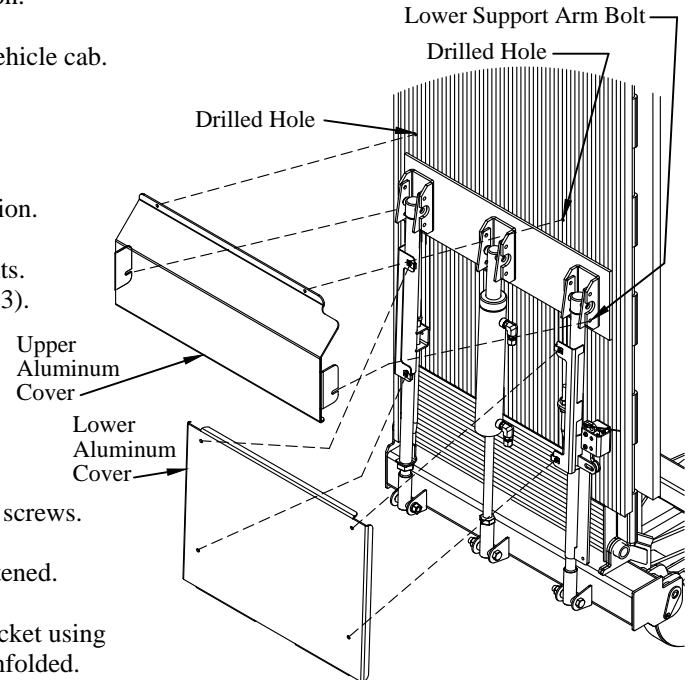

Figure 23: Aluminum cover installation.
7. **Install** the upper aluminum cover on the lower 5/16" support arm bolts. 5/16" flat washers should have been installed previously (Figure 23).